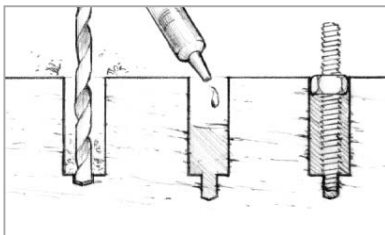

Figure 20 Bond threaded rods or studs into the substrate as an alternative for easily removable hardware.
2. Place a nut and washer on the studs, wet out the lower ends and push them into the epoxy filled holes. Allow the epoxy to cure thoroughly before attaching hardware and tightening the nuts (*Figure 20*).